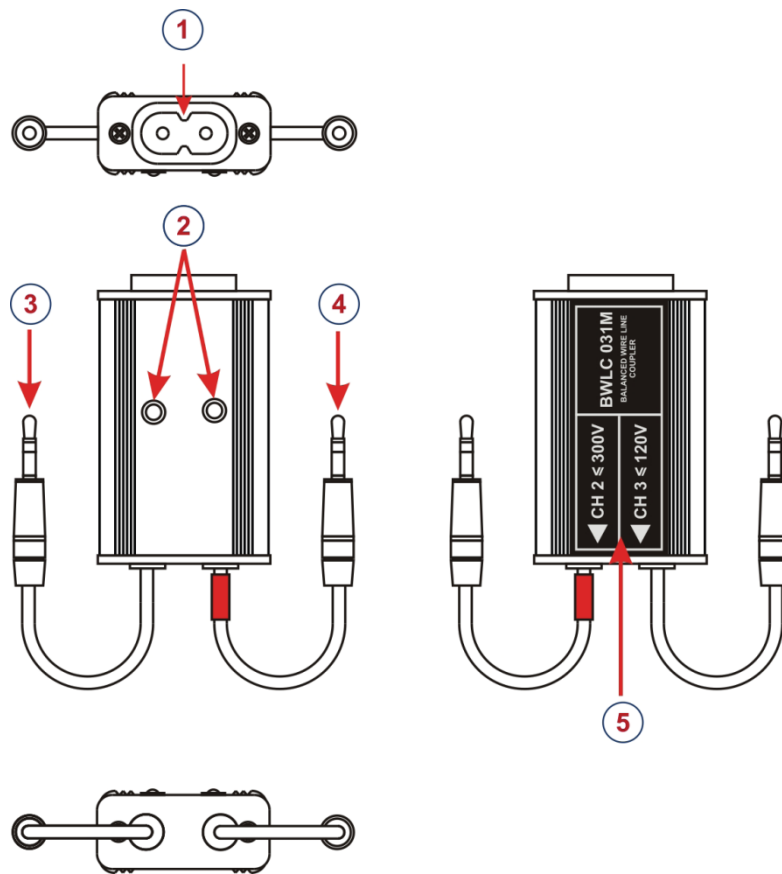
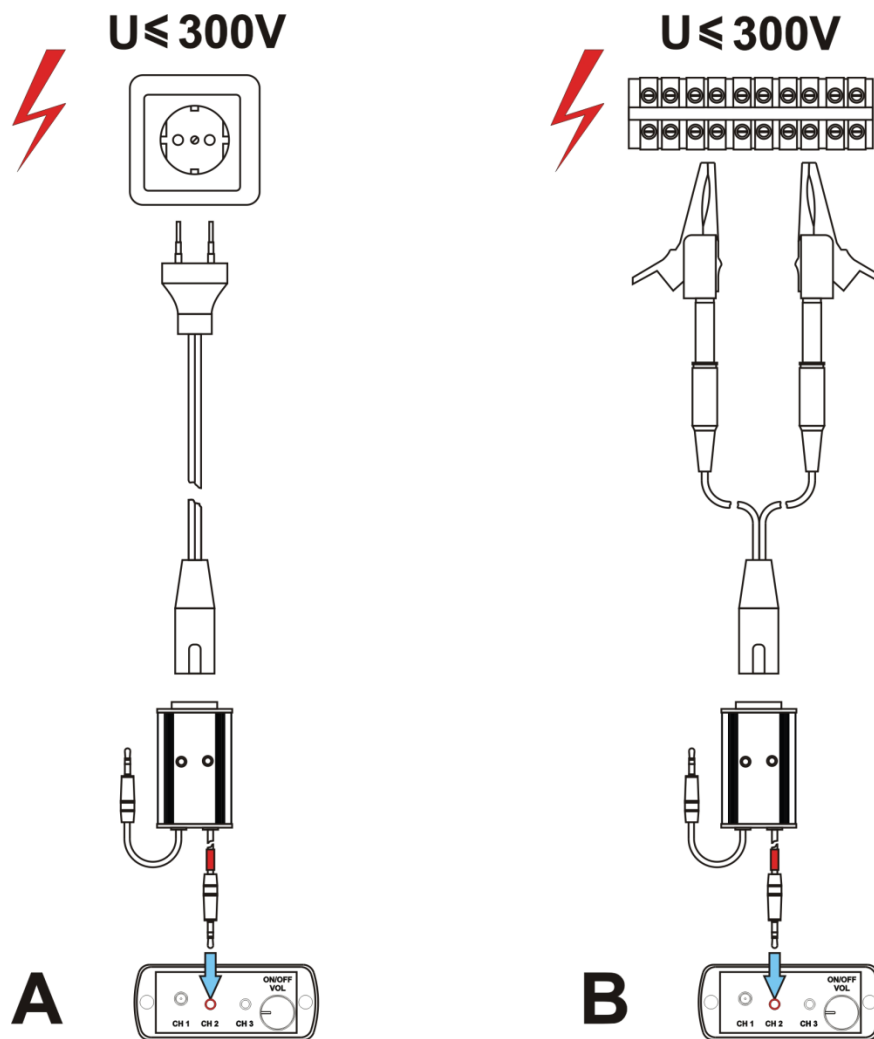

Figure 28a
Figure 28b
The appearance of the adapter is shown in Figure 28a.
There are two options to connect the adapter to wire lines (Fig.28b).
- If the power supply line, equipped with a standard electricity sockets, is inspected, it is convenient to use a connecting cable pos.14 figure 4 (wiring diagram A Fig.28b).
- If you plan to work on the crosses, vending machines, etc., you must use multipurpose cable (position 12) and clamps (position 9) Figure 4. (wiring diagram B in Fig.28b).
The output cable of the adapter is marked in red (Figure 28a, position 4) and has to be connected to the socket "CH2", located on the top panel of ST-031M.
1.	Connect universal adapter BWLC031M to the main unit and tested line as shown in Fig.28b (option A or B). The presence in the line of DC current is indicated by one of the two indicators (No.2, Figure 28a). If inspected line has alternating voltage - both LEDs should light. No light indicates that the tested line has no current.